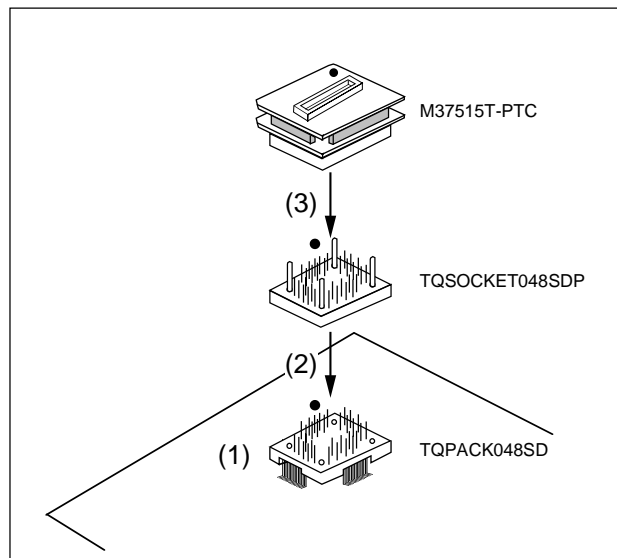

Figure 3 Connection procedure of M37515T-PTC
5. Connection Procedure (see Figure 3)